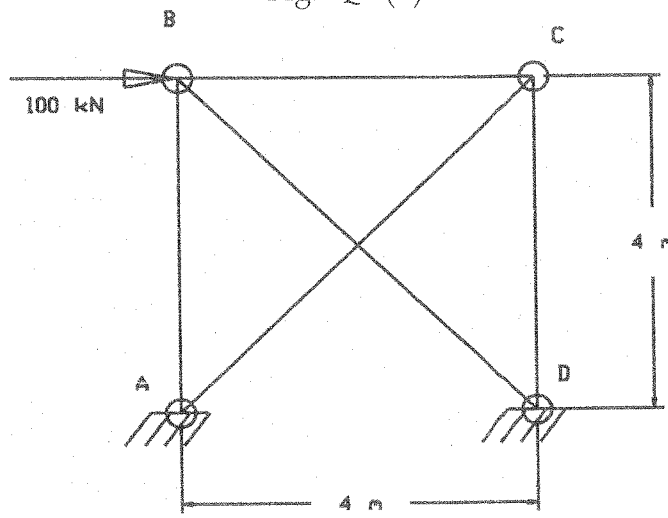

Fig. Q2
- Q2. a) Indeterminate truss is shown in Fig. Q2. Assuming appropriate virtual force system, calculate the member forces using principals of Virtual Work. Consider that the external member (i.e. members AB, BC & CD) of the truss are subjected to temperature rise of  $10^\circ\text{C}$  at service compared to the time of its fabrication and that the member DB is initially reported to be 4 mm shorter than its expected dimensions. All members of the truss is fabricated using steel having cross section are  $500 \text{ mm}^2$  and the Young's modulus of 200 GPa. Applied vertical load at B is 100 kN. Coefficient of thermal expansion of steel  $\alpha = 10 \times 10^{-6} \text{ }^\circ\text{C}^{-1}$ . [8 Marks]